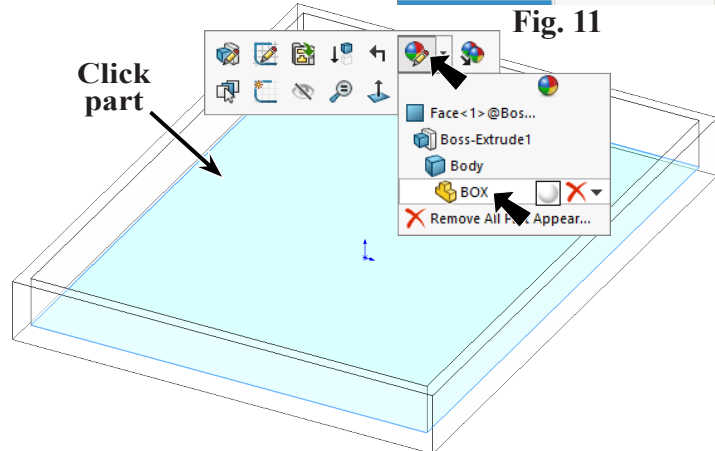

Fig. 12
- Step 1. Click the Box to select the part, click **Appearances Callout**  on the Content toolbar and click **BOX** , Fig. 12.